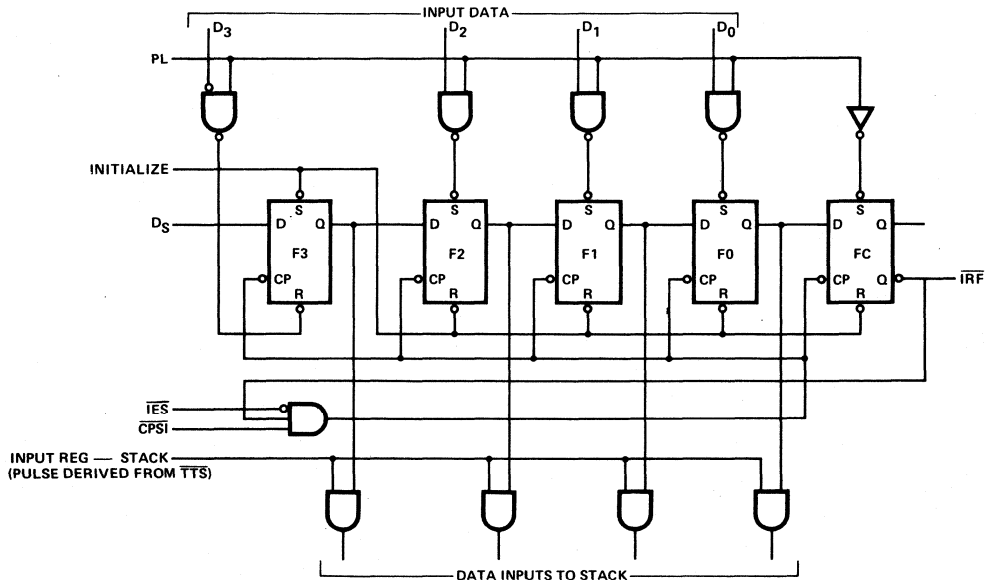

Fig. 1 CONCEPTUAL INPUT SECTION
Figure 1 is a conceptual logic diagram of the input section. As described later, this 5-bit register is initialized by setting the F3 flip-flop and resetting the other flip-flops. The \bar{Q} output of the last flip-flop (FC) is brought out as the "Input Register Full" output (IRF). After initialization this output is HIGH.